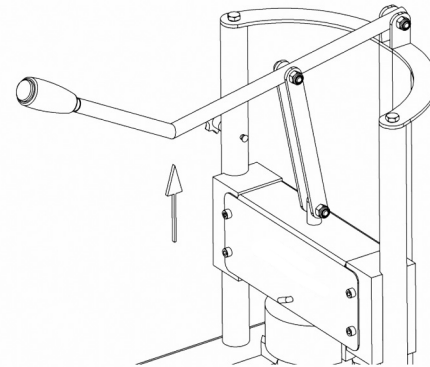

Figure 3
- Lift up the arm (03) of your product with one hand on the vertical axis (Figure 3). With your other hand, push the security locking screw (22) in, without releasing the arm(03). This will prevent the falling down of the push wedge (18).